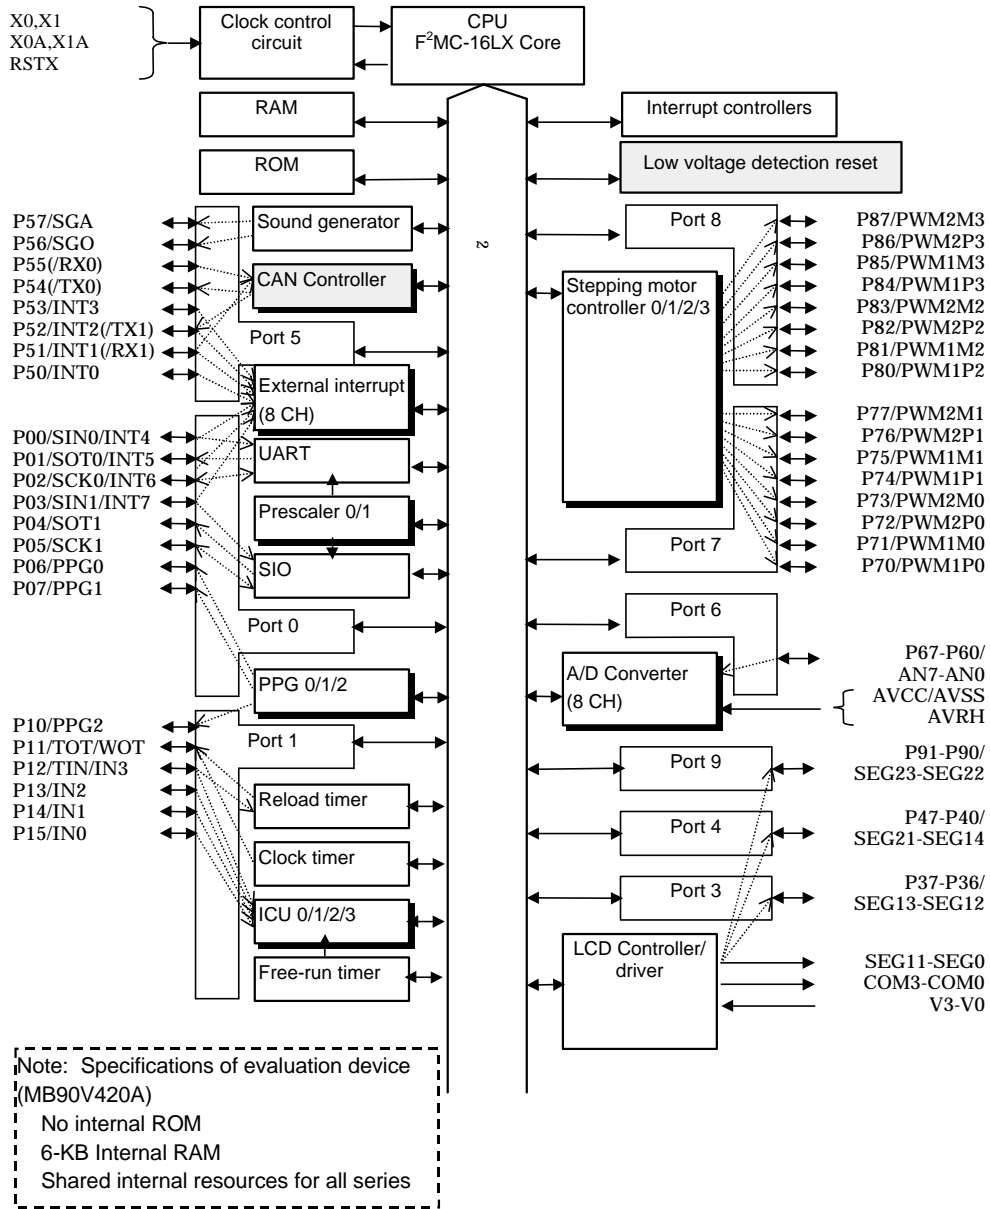

Fig. 1.3.1 Block Diagram
Figure 1.3.1 shows a block diagram of the MB90420/5(A) series.